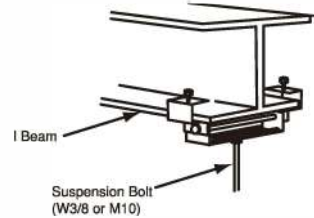

Fig. 3.4 Mounting Suspension Bolts
- (3) Check to ensure that the ceiling is horizontally level, otherwise drainage can not flow.
- (4) Strengthen the opening parts of the false ceiling.
- (5) Mount suspension bolts, as shown in Fig. 3.4.